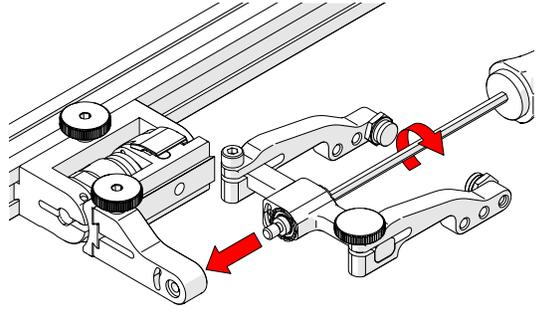

Fig. 169 - Install yoke to swing arm
6. Using the 3 mm hex driver, screw the yoke pivot screw into the opposite side of the probe holder swing arm (*Fig. 169*). Ensure the yoke is level to avoid issues with the plunger/set screw.